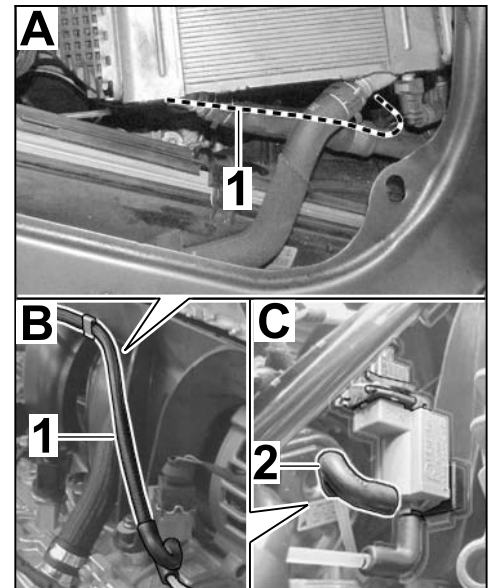

Figure 31
- 3.7.3 Route vacuum line ⇒ *Figure 31*